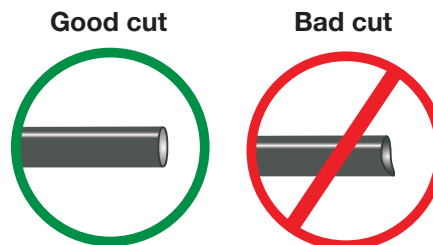

fig. 26
1. Cut the air line in half. Make clean, square cuts with a razor blade or hose cutter (fig. 26). Do not use scissors or wire cutters.
- a. Check the air line connection by deflating the spring and removing the line by pulling the collar against the fitting and pulling firmly on the air line. Trim 1" off the end of the air line. Be sure the cut is clean and square (see fig. 26). Reinsert the air line into the push-to-connect fitting.